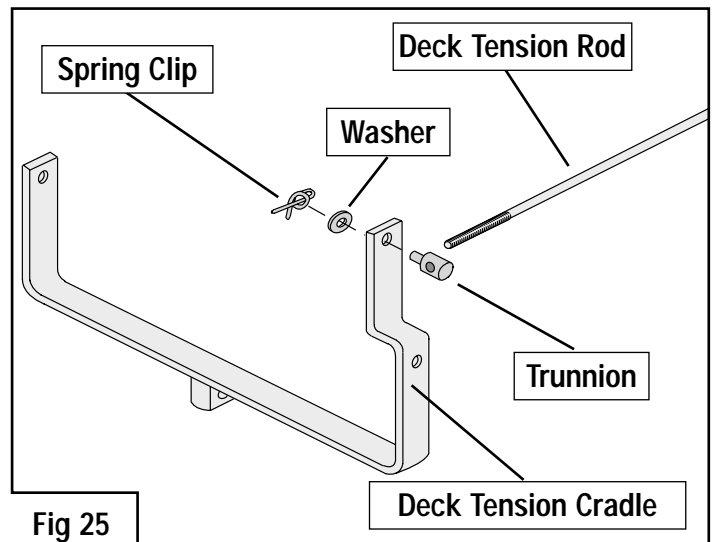

Fig 25
3. Remove the Spring Clip and washer holding the Trunnion in place on the Deck Tension Cradle (fig 25) and release the Trunnion so it can be turned.